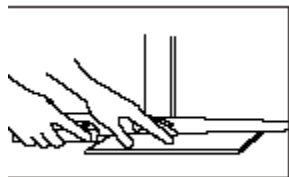

Figure 6
- Undercut door casings and jambs. Remove any existing base, shoe mold or doorway thresholds. These items can be replaced after installation. All door casings and jambs should be undercut to avoid difficult scribe cuts (Figure 6).